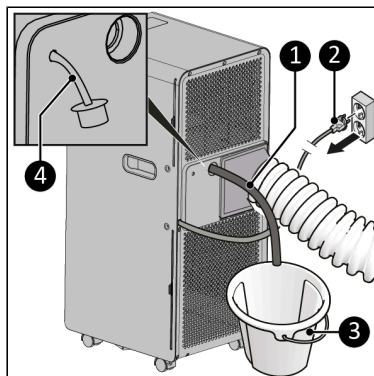

Figure 34.
1. Make sure the device is switched off and the plug is removed from the power outlet (Figure 34, pos. 2).
2. Remove the rubber plug from the drain (Figure 34, pos. 4).
3. Connect the included water drain hose (Figure 34, pos. 1) to the drain of the device.
4. Place the outlet of the water drain hose in a bucket (Figure 34, pos. 3).